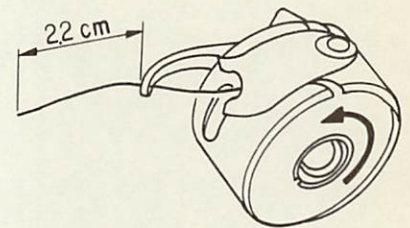

Fig.18
- \* The standard length from the bobbin corner is 2.2cm(7/8"). (Fig.18)